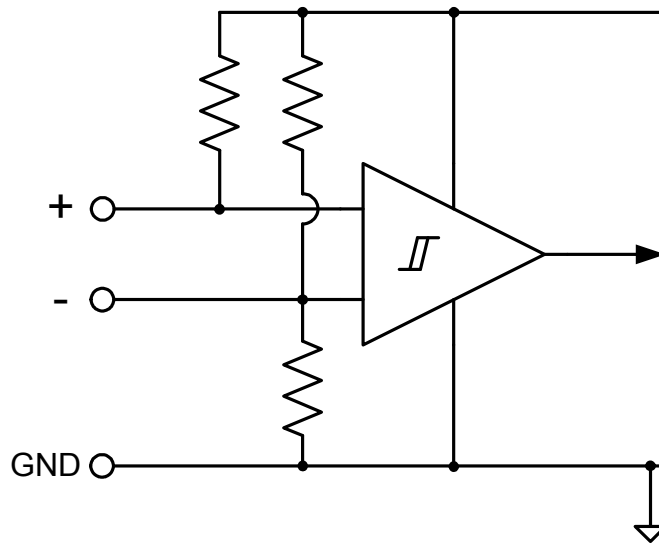

Figure 13: Input circuit used with InPos and InAux signals.
2.2.2.2. InPos, InAux input signals. The input InPosA, InPosB and InAux can be driven either by a differential RS422 or by a single-ended TTL driver. The proper connection and the equivalent input circuit are represented in Figure 13.